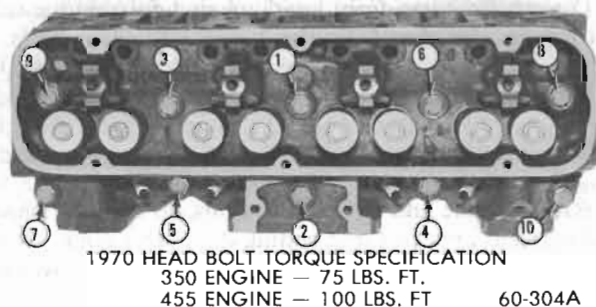

Figure 60-75 - Cylinder Head Bolt Tighten Sequence (350 Shown)
5. Install head bolts. Tighten the bolts a little at a time about three times around in the sequence shown in Figure 60-75. Give bolts a final torque in the same sequence. Torque to 75 lb.ft. (350 Cu In.) and 100 lb. ft. (455 Cu. In.).